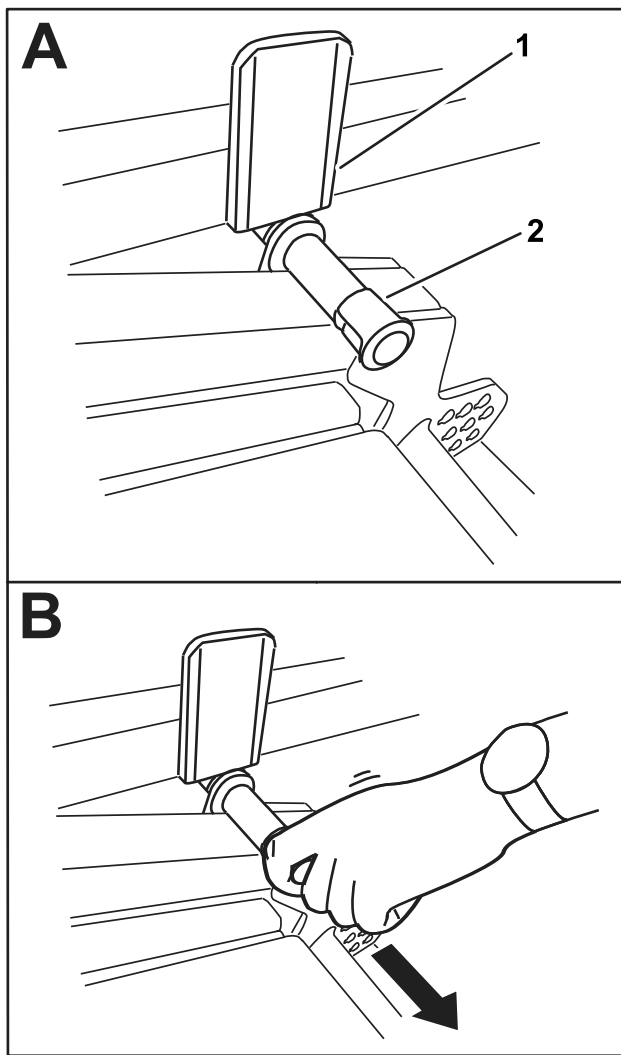

Figure 38
2. Slowly rotate the cutting unit down until the pin contacts the lift-arm plate (A in Figure 38).
3. Use your foot to press down on the cutting unit, then pull out on the pin (B in Figure 38) to let the cutting unit settle into the TRANSPORT position.